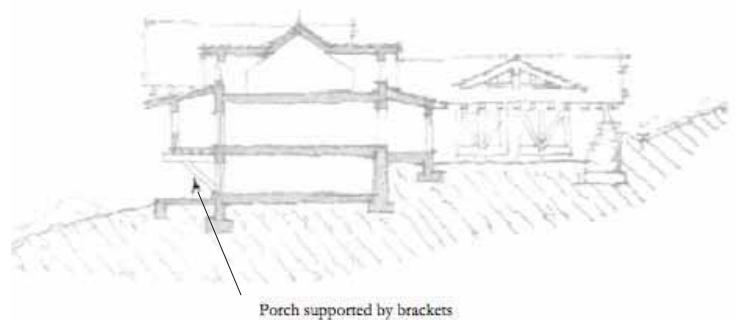

Figure 3.8a
- The deck may be cantilevered and supported on brackets rather than stone piers (see Figure 3.8a)